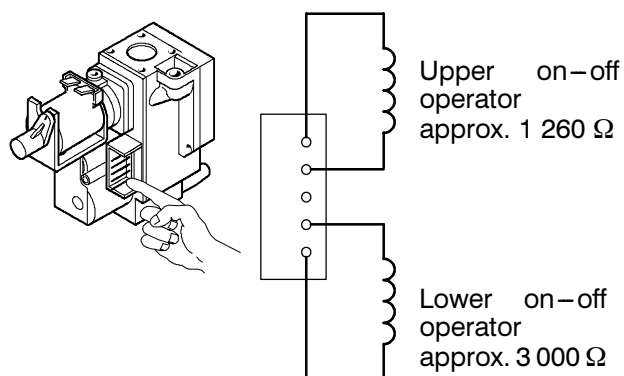

fig. 55
- 3 Measure the electrical resistance between the leads of the on–off operators as illustrated in fig. 55.